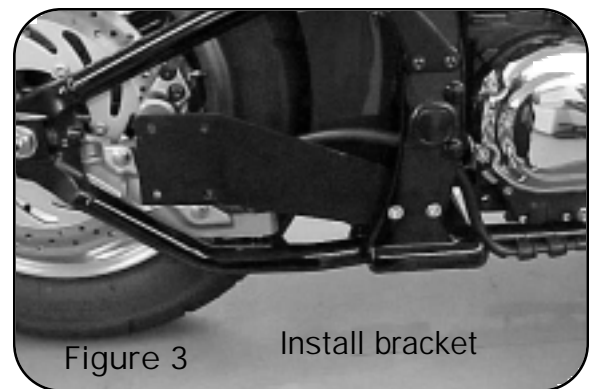

Figure 3 Install bracket
3. Install mounting bracket using two 10x30mm Allen bolts and lock nuts (supplied)(Figure 3).